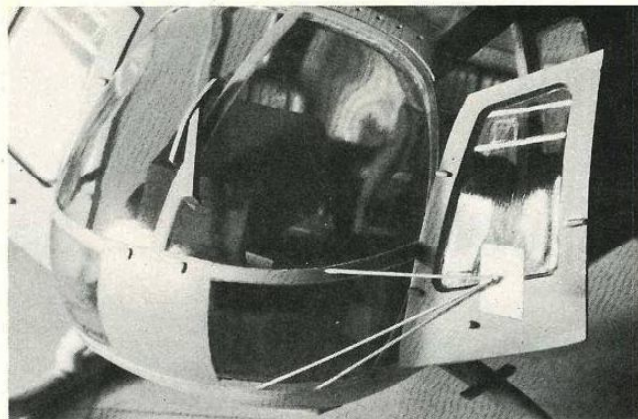

Fig. 7. A scratchbuilt windshield wiper and a rearview mirror add visual interest to the BO 105.
**Exterior details.** The front bubble sports a windshield wiper, Fig. 7, which should be attached with Elmer's to prevent crazing the plastic. The small motor for the wiper was constructed from a piece of styrene sheet, and a piece of painted sprue for the power cable. When you attach the bubble to the fuselage, be sure to align it so that the frames look right from all angles. Once again, use Elmer's because it will give you time to position the part correctly before the glue sets.